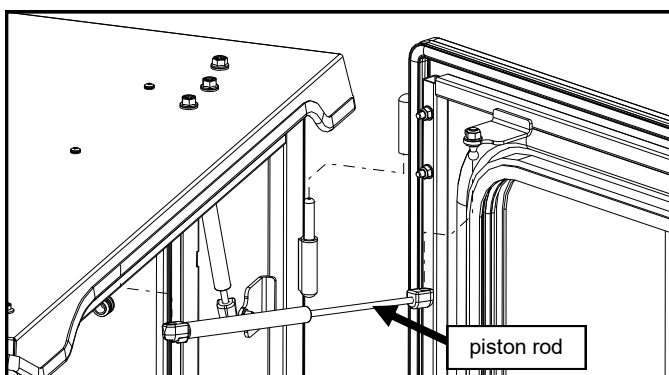

Fig. 20.3 (gas shock installation - left)
20.3 Install the door gas shocks oriented so that the piston rod is pointing downhill (toward door) for best, continuous seal lubrication and longest gas shock life. See fig 20.3.